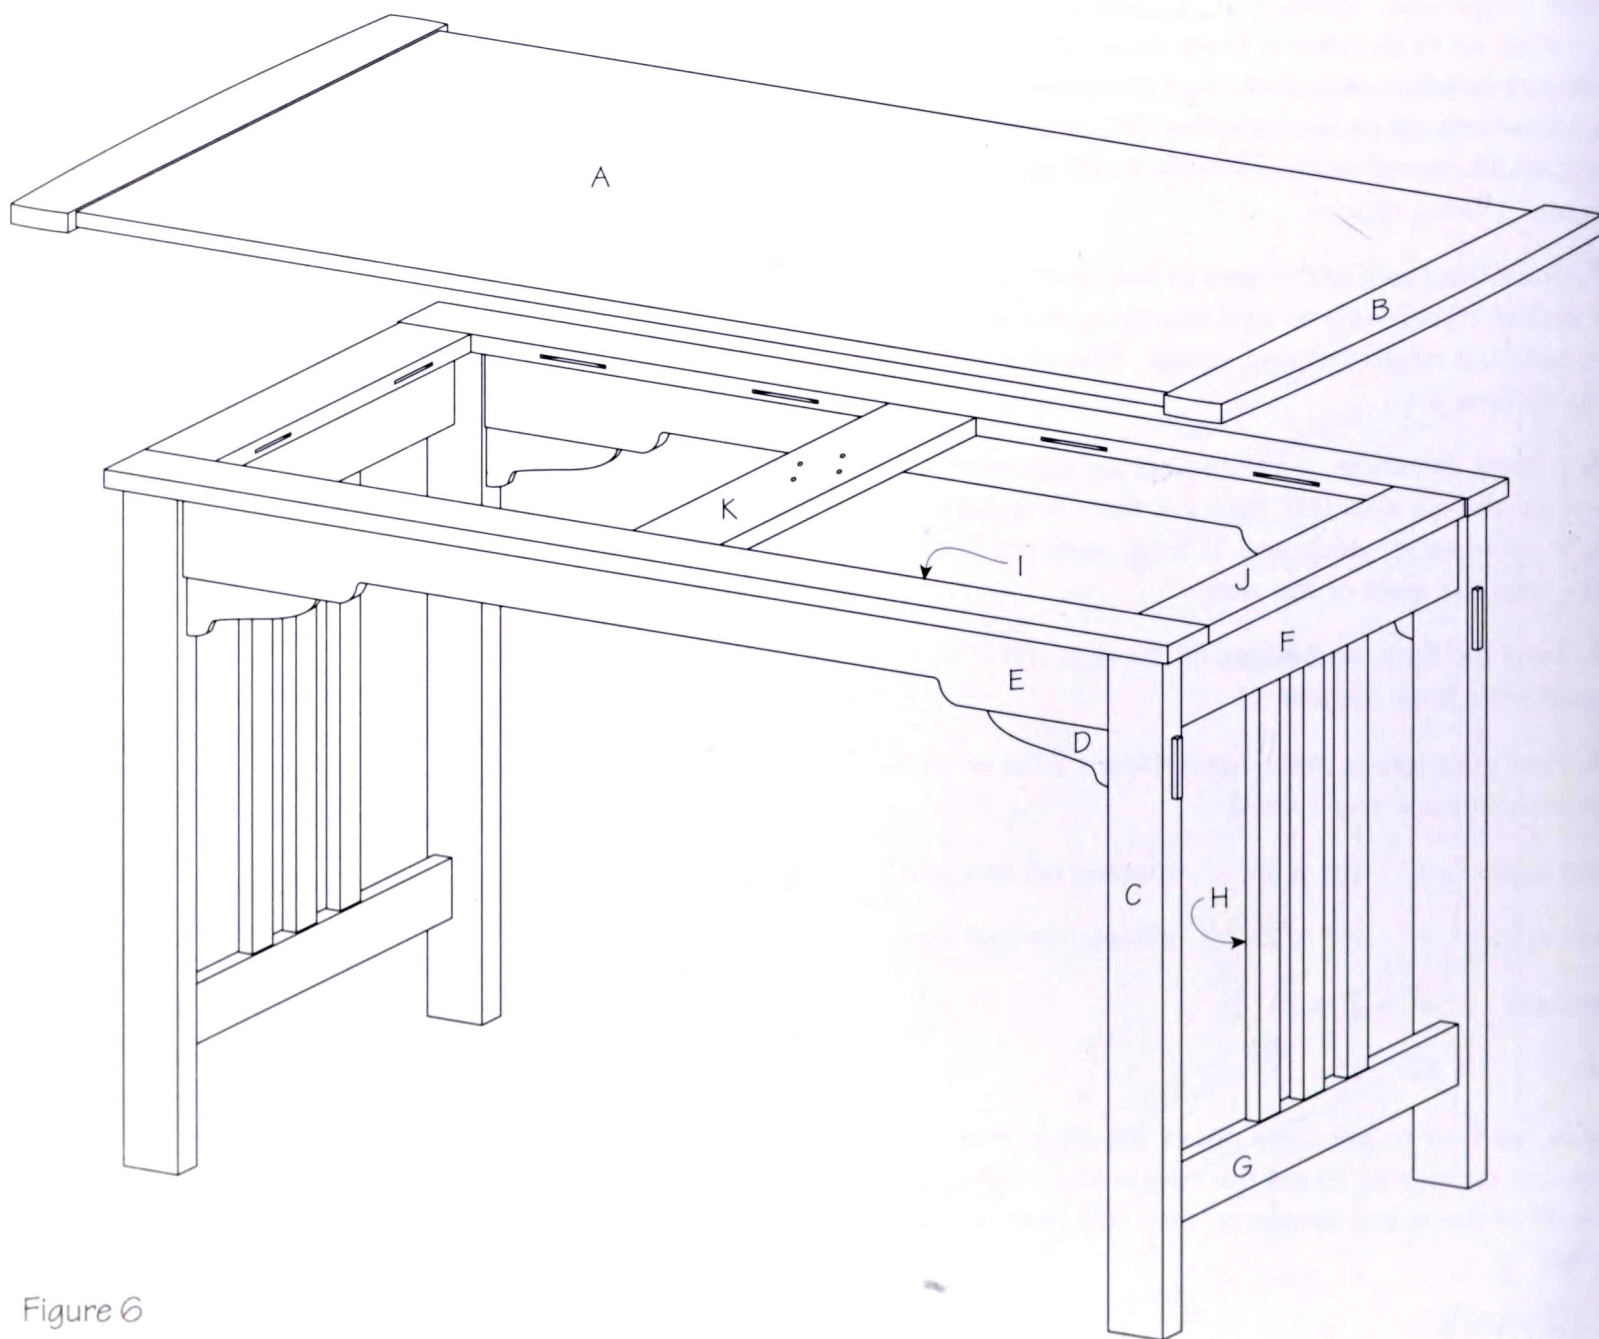

Figure 6
1. A greenheart frame lies between the top and the base, providing a visual transition and a means of attaching the two main parts of the writing table to each other (refer to figure 6). The frame extends past the long and short aprons (E and F) by 1" on all four sides. You may wish to check the measurements that follow against your base, just to make sure. Begin by preparing greenheart stock for the frame pieces, finishing with the following dimensions. All of the pieces are $\frac{3}{4}$ " thick. The long frames (I) and the short frames (J) are $3\frac{1}{4}$ " wide, while the center frame (K) is 4" wide. Cut the long frames to $48\frac{7}{8}$ " long. Cut the short and center frames to $20\frac{3}{8}$ " long.
5. Gary Peterson uses table top fasteners engaging slots on the inside edges of the long and short frame pieces. Cut slots for the fasteners now, two in each short frame and four in each long frame, distributed evenly (see figure 6). You could use $1\frac{1}{4}$ " screws with fender washers through oversize holes near the inside edges of the frame pieces instead of the table top fasteners.
9. While the glue cures, drill four $\frac{3}{2}$ " holes at the corners of a 3" by 8" rectangle centered on the center frame (refer to figure 6). These will accommodate $1\frac{1}{4}$ " screws anchoring the middle of the top to the frame.